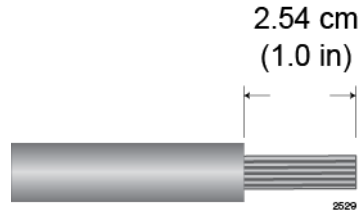

Figure 157. Stripping Solid or Stranded DC Power Wires
1. Prepare adequate lengths of two solid or stranded 8 AWG DC power wires by stripping them as shown in Figure 157.